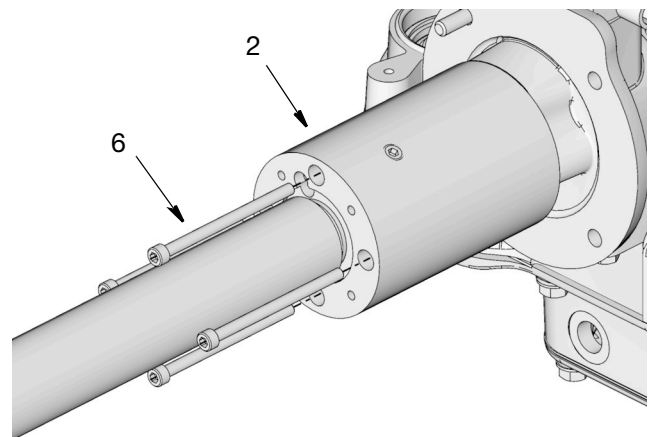

FIG. 24
9. Remove the screws (6) from the pump adapter (2) (FIG. 24).